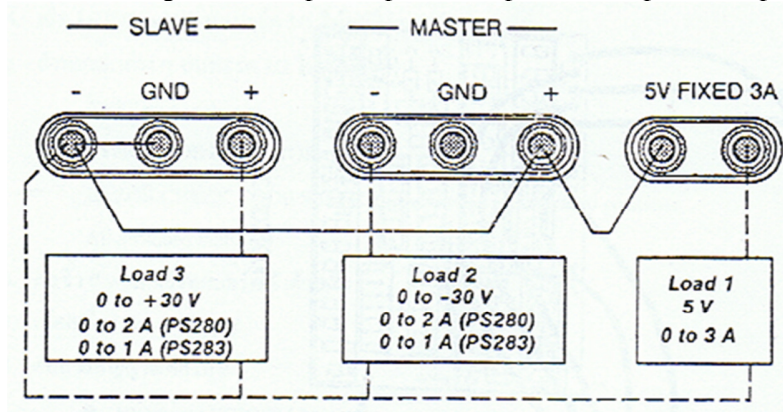

Figure 2: DC power supply configuration
1. Connect the power supply to the Modicom 1 board using the diagram shown in figure 2. Set the sampling control switch to "internal".